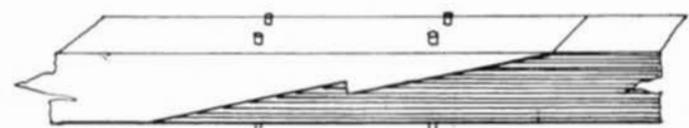

FIG. 16
OLD COURT HOUSE, Limpsfield, Surrey. This building, another aisled hall, with passing braces and collar beams, appears to have been built by Abbot Odo, who served 1175-1200. The posts have octagonal shafts (the bottom ends are curved) with plain rolled astragals, changing to square abacuses; the bells have volute leaves at the corners, as well as vertical stems with three leaves, probably oak (Fig. 8). The arcade plates are original and scarfed; these joints are splayed, tabled and pegged (Fig. 16).
OLD PARKBURY FARM, Radlett, Hertfordshire (5). This was a long barn of seven bays with passing-braces tenoned into the tie-beams. Arcade plates and aisle top-plates were scarfed as shown in Fig. 16, with the joints across posts or studs. Splayed and tabled without any butts, they are pegged four times and measure over five times longer than their thickness. Other examples of this scarf occur in the Great Barn, Ruislip, London and Whiston Barn, Rotherham near Sheffield, Yorkshire—and, as we have seen, the Old Court House in Limpsfield.